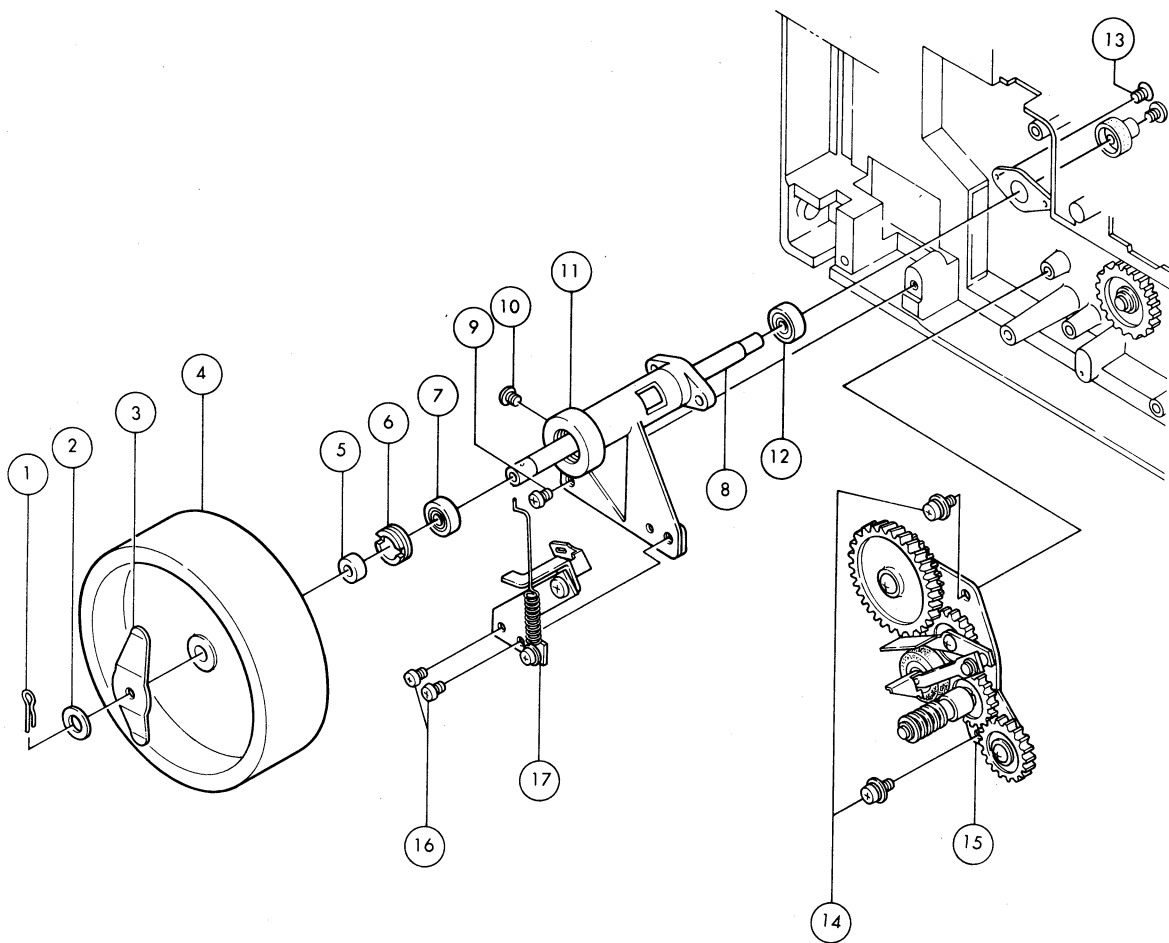

Fig 28
A. Disassembly Refer to Fig.28.
2. Remove (1) and take out (2)(3)(4)(5) together.
3. Remove (14)x2 and take out (15).
4. Remove (16)x2 and take out (17).
6. Remove (9) and (13)x2 and take out (11).
7. Loosen 10) and remove (6), and then pull out (8) together with (7).